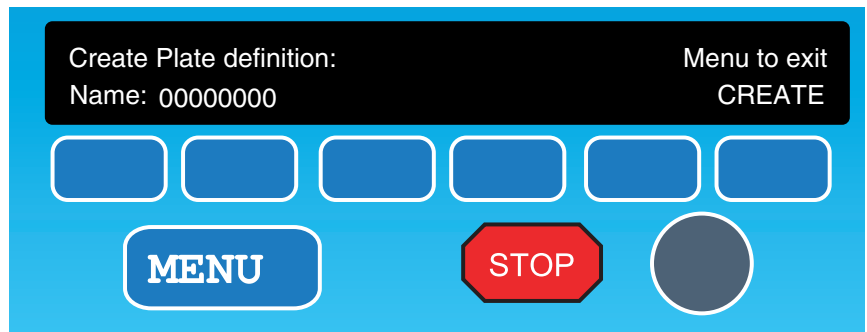

Figure 7-16: The **Create Plate definition** screen.
- 2) Press the **NEW** softkey to open the **Create Plate Definition** screen. The software automatically assigns the lowest available plate definition number to the new plate definition (Figure 7-16).